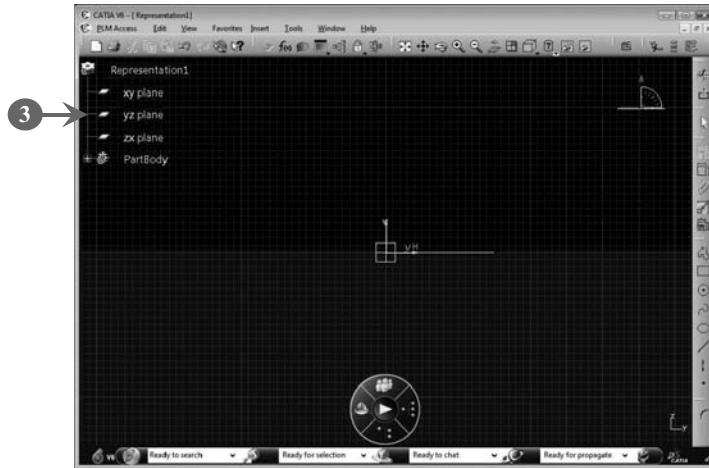

FIGURE 3.33
3. *Exit* from the Part Design workbench by using the **Sketcher** button of the **Sketcher** toolbar and open the curve (Figure 3.32) in the Sketcher workbench by selecting the **yz-plane** from the specification tree, as shown in **Figure 3.33**: